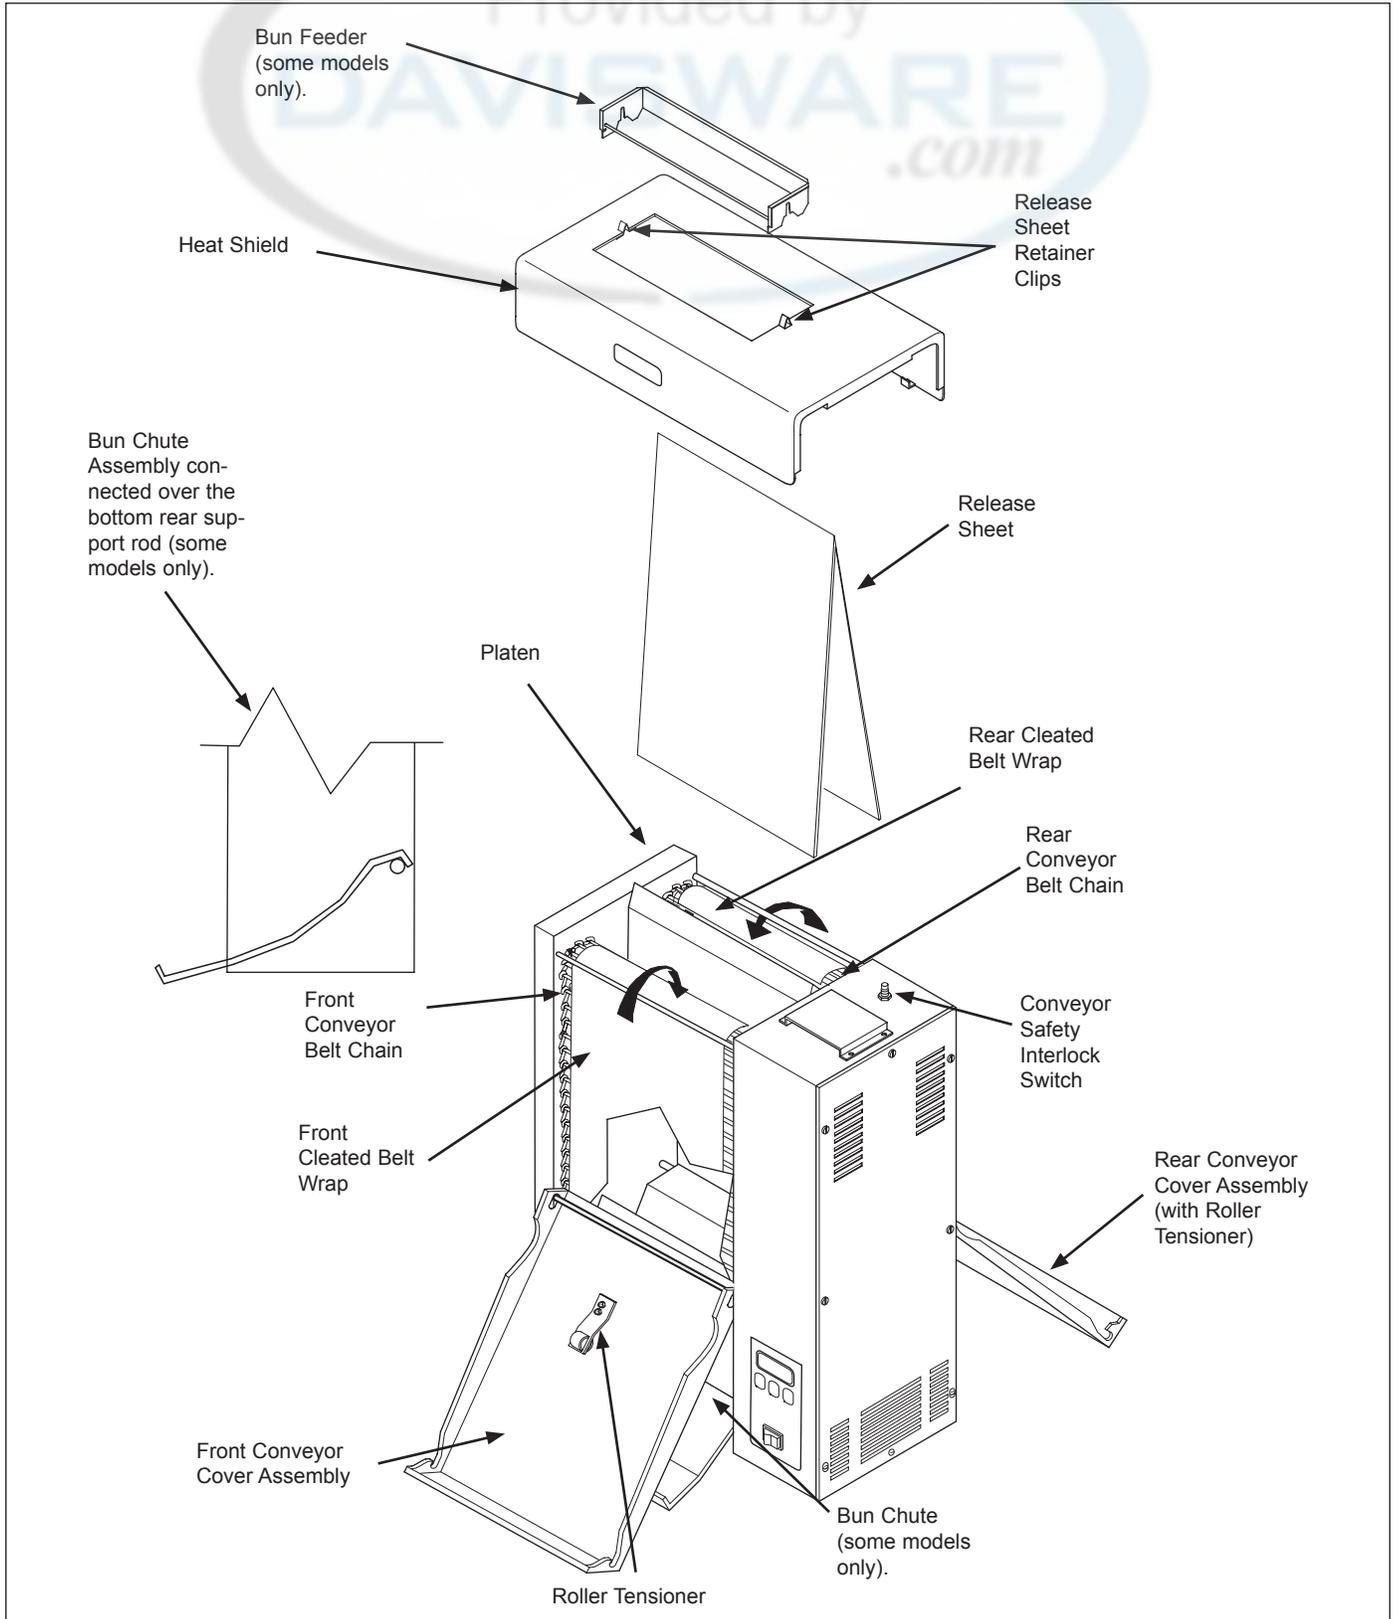

Figure 1. VCT-2000 Toaster
- Bun Chute (Figure 1) some models only.
- Bun Feeder (Figure 1) some models only.
- 2 Release Sheets (Figure 1).
NOTE: The factory has pre-installed a Release Sheet over the Platen (Figure 1). Verify that it is properly in place before proceeding.
1. Remove Bun Chute and Bun Feeder from the box and install (Figure 1).
IMPORTANT: Make sure heat shield assembly is activating the Conveyor Safety Interlock Switch (see Figure 1). The conveyors will not rotate unless the Heat Shield is in place and Conveyor Safety Interlock Switch is activated.
2. Put on heat resistant gloves. Remove the Bun Feeder, Heat Shield, and Bun Chute (Figure 1). Wipe them with a damp sanitized towel and allow them to air dry.